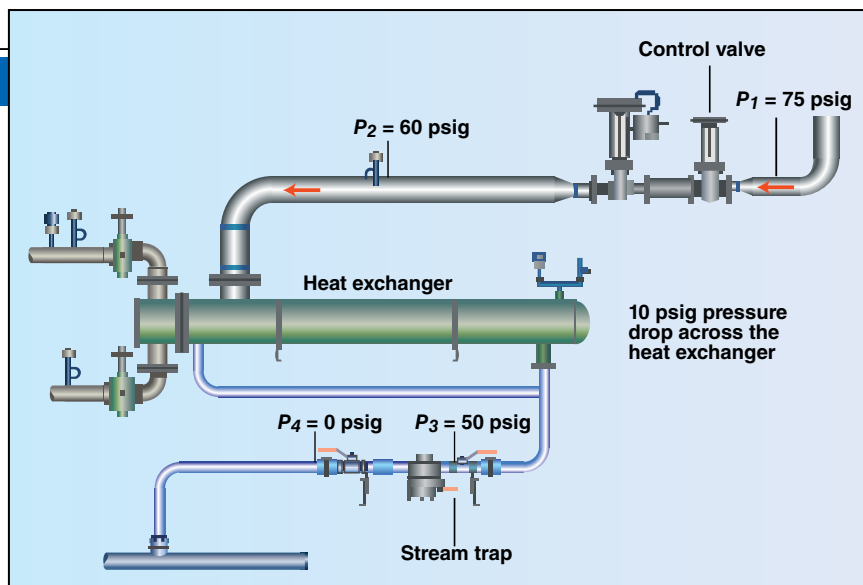

FIGURE 3. The setup and data for process example No. 2 (heat exchanger) is shown here
Process example No. 2: Heat exchanger. In this example, we will use Figure 3. First, we need to determine the differential pressure across the steam trap. Some plants document steam pressure at the steam control-
valve inlet, but we cannot assume that the steam-line operating pressure will equal the steam pressure at the control valve. We need to consider pressure drops in the steam line. In Figure 3, P_1 (75 psig) is the pressure at the control-valve inlet. The pressure drop across the control valve is available from the manufacturer's valve-performance information. In this case, the pressure drop is 15 psig.
Fin geometry and the ratio of external surface area to tube internal area affects the overall heat-transfer coefficient. Figure 3 shows the behavior of gas-side heat transfer coefficients (h_g) at varying fin height (h) and fin density (n), as mass velocity (G) increases.
FIGURE 3. Geometry affects gas-side heat-transfer coefficients; as fin density (n) increases, the gas-side heat transfer coefficient (h_g) will decrease. In this figure, h is fin height in inches